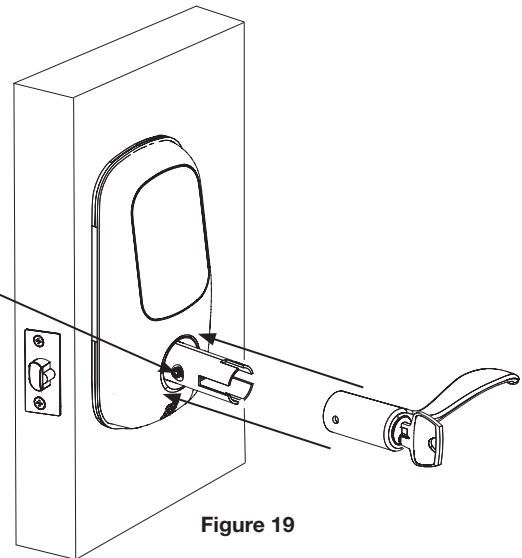

Figure 19
C. Ensure that cylinder key remains in previously set vertical position (Fig. 19).